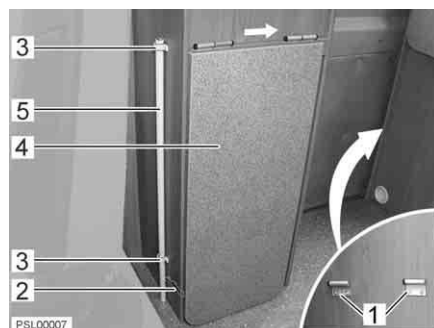
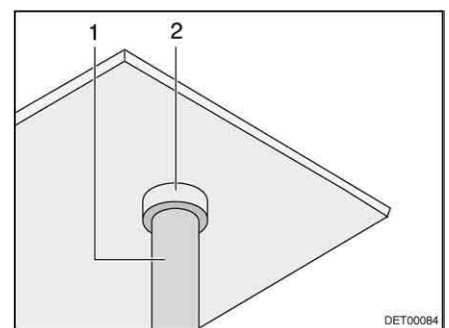

Fig. 30 Folding table, folded up
Fig. 31 Folding table, table leg holder
- Undo the securing strap (Fig. 30,2) (push button).
- Pull the table leg (Fig. 30,5) upwards out of the holders (Fig. 30,3).
- Fold the table-top (Fig. 30,4) up and insert the table leg (Fig. 31,1) into the holder (Fig. 31,2).
- Fold up the table-top (Fig. 30,4) a little and push it back (Fig. 30, arrow).
- Insert the table-top into the holders on the rear wall of the kitchen unit (Fig. 30,1).
- Insert the table leg (Fig. 31,1) into the holder (Fig. 31,2).